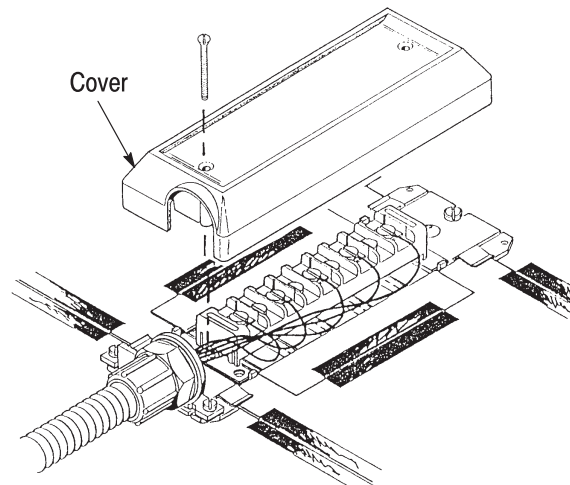

Figure 8
11. Place cover over transition block and secure it to mounting plate with screws provided. See Figure 8.